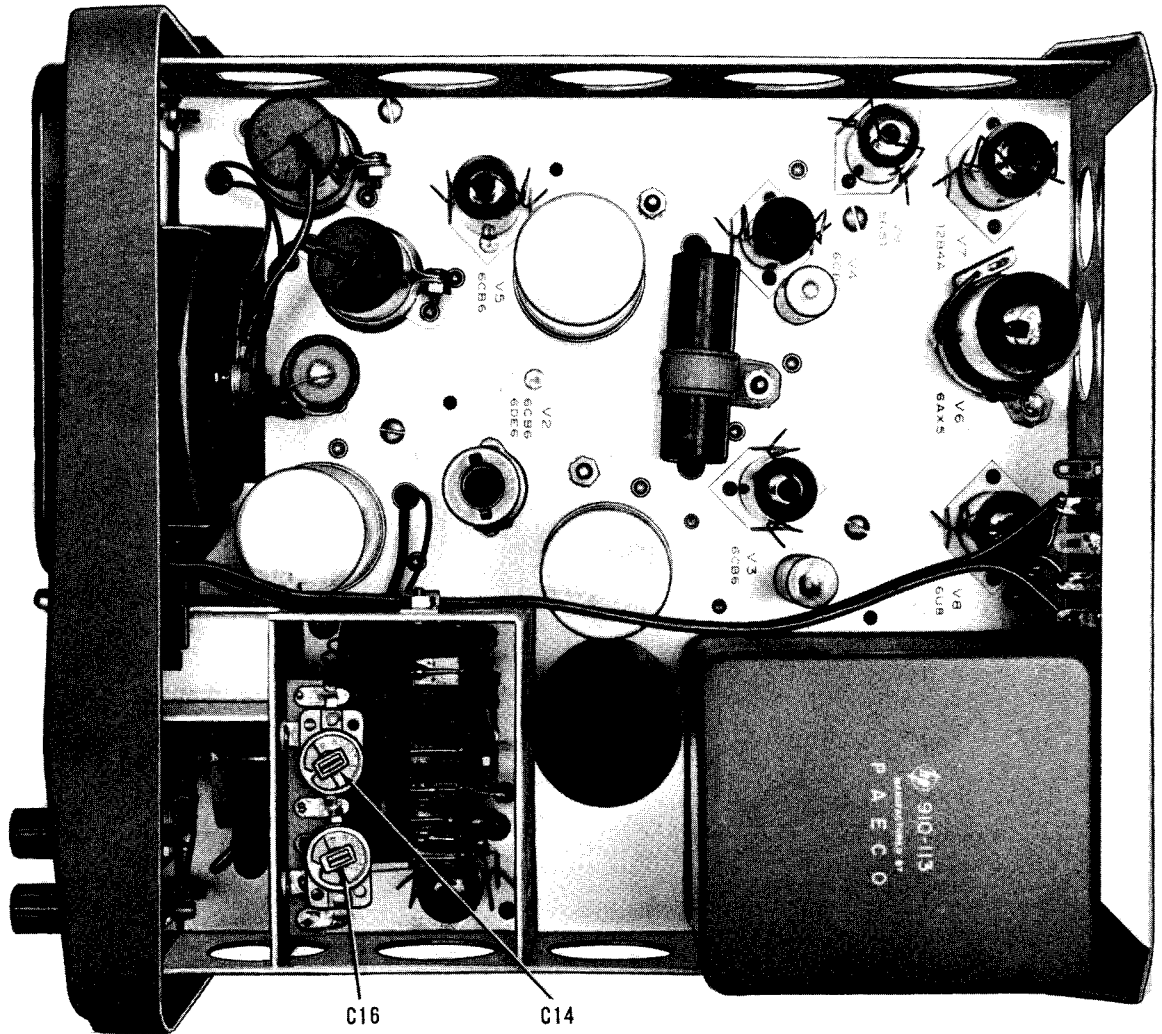

FIGURE 3. VACUUM TUBE VOLTMETER - RIGHT SIDE VIEW.
10.9 Adjust the output frequency of the 739AR test set to 4 mc. Adjust C14 (fig. 3) until the 400H indicates 2.8 volts.
Adjust C16 (fig. 3) until the 400H indicates 0.0098 volt.